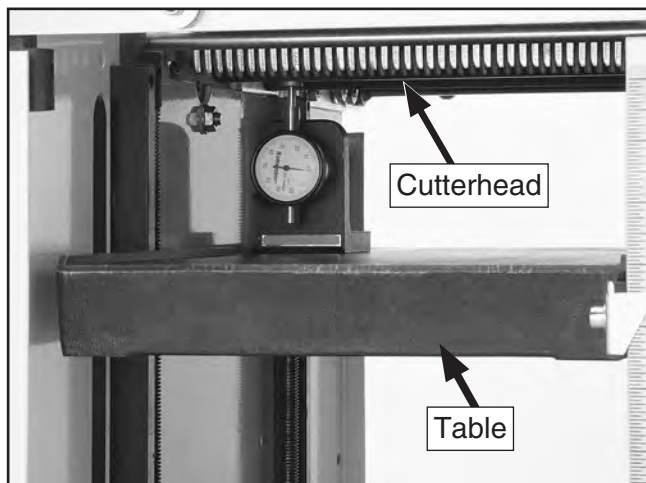
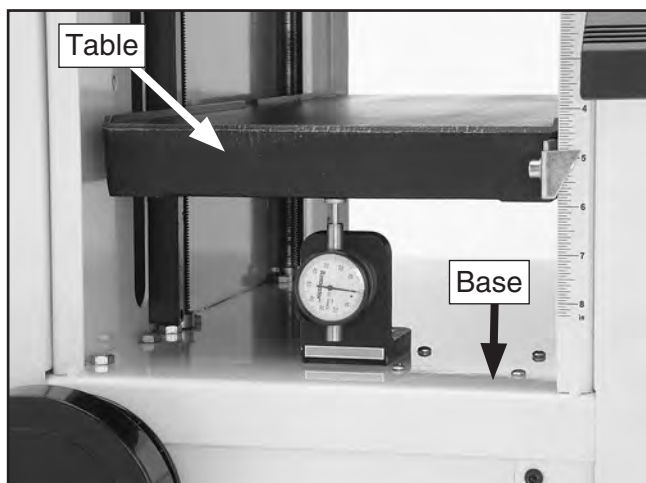

Figure 82. Measuring side-to-side parallelism.
Figure 83. Measuring front-to-back parallelism.
Use your Rotacator (**Page 31**) to further inspect the table parallelism, as shown in **Figure 82** and **Figure 83** on **Page 50**.
2. Place the Rotacator on the planer table under one side of the cutterhead, then raise the planer table until the dial rotates one full turn to "0" (see **Figure 82**).
5. Place the Rotacator on the base under the center of the infeed side of the planer table, so the plunger contacts the webbing evenly (see **Figure 83**).